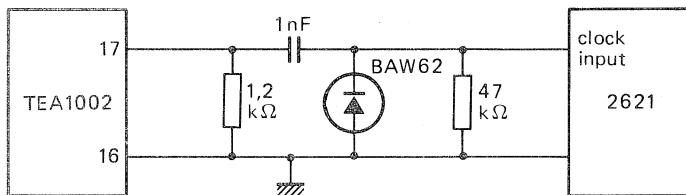

Fig. 5 Clock coupling circuit.
1. This circuit assumes capacitive coupling to the N-MOS games IC (see Fig. 5).